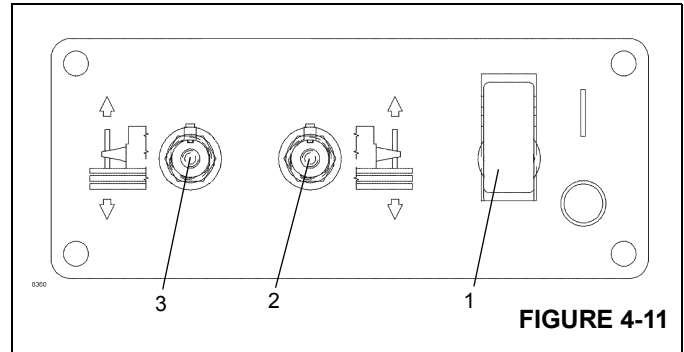

FIGURE 4-11
3. On the counterweight cylinders control panel (Figure 4-11), open the power switch cover (1) and toggle the switch to the on position.
4. Using the counterweight cylinders control panel, lower the counterweight cylinders by pushing down on the left side cylinder switch (2) and right side cylinder switch (3). Pin the cylinders to the counterweight using the attach pins in the cylinders. Insert the retaining pins in the attach pins.